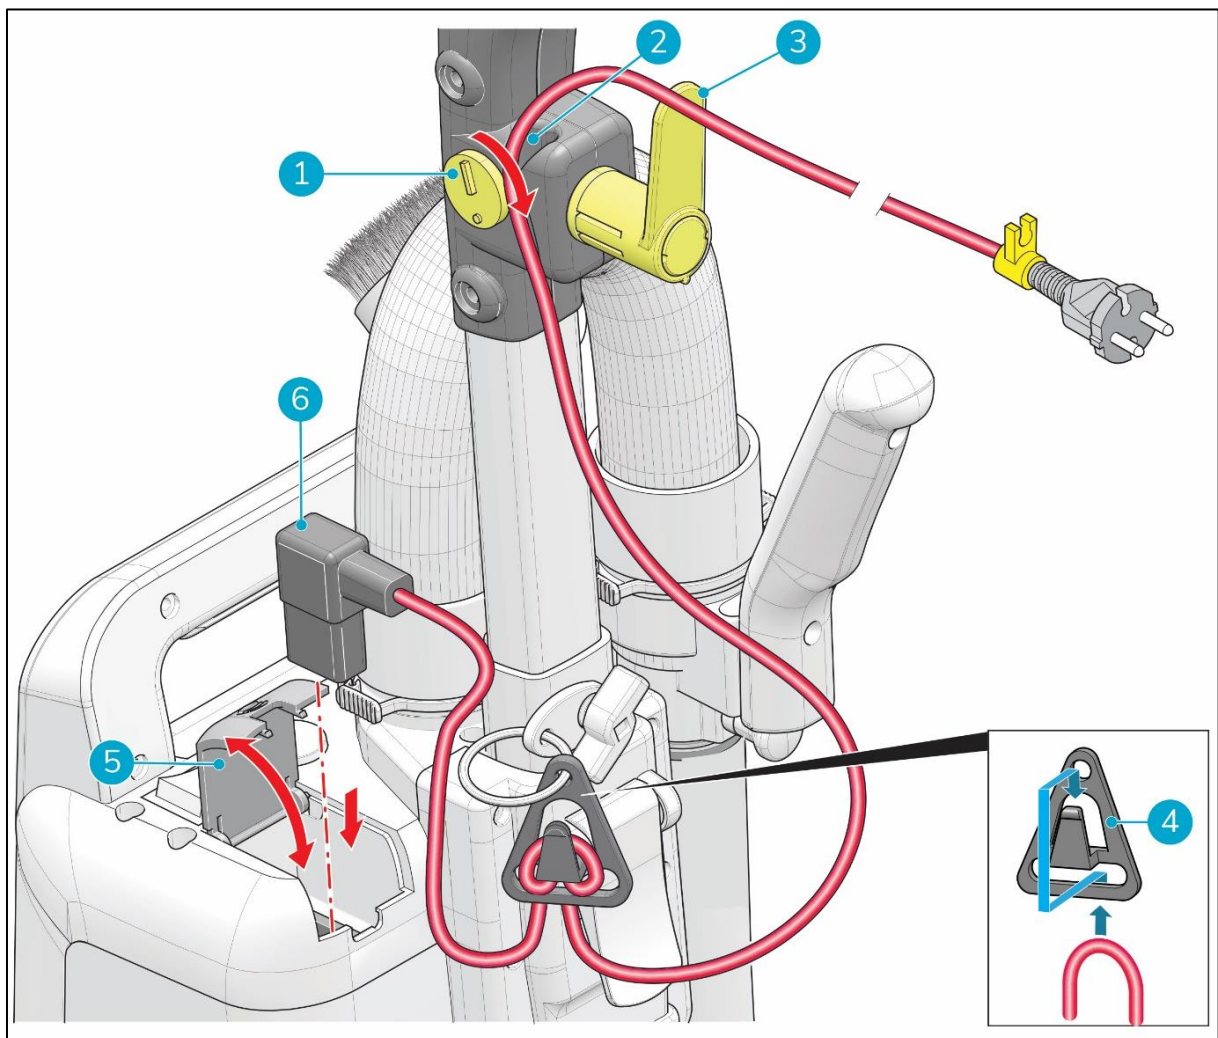

Figure 10
1. Open the cover (Figure 10, pos 5).
2. Place the main power cable connector into the slot (Figure 10, pos 6).
3. Close the cover (Figure 10, pos 5).
4. Insert the main power cable into the cable strain relief (Figure 10, pos 4) and secure the main power cable.
5. Turn the yellow clip (Figure 10, pos 1) aside to open the power cable duct (Figure 10, pos 2).
6. Insert the main power cable into the power cable duct (Figure 10, pos 2).
7. Secure the main power cable with the yellow clip (Figure 10, pos 1).
8. Turn the yellow power cable hook (Figure 10, pos 3) into the upright position.